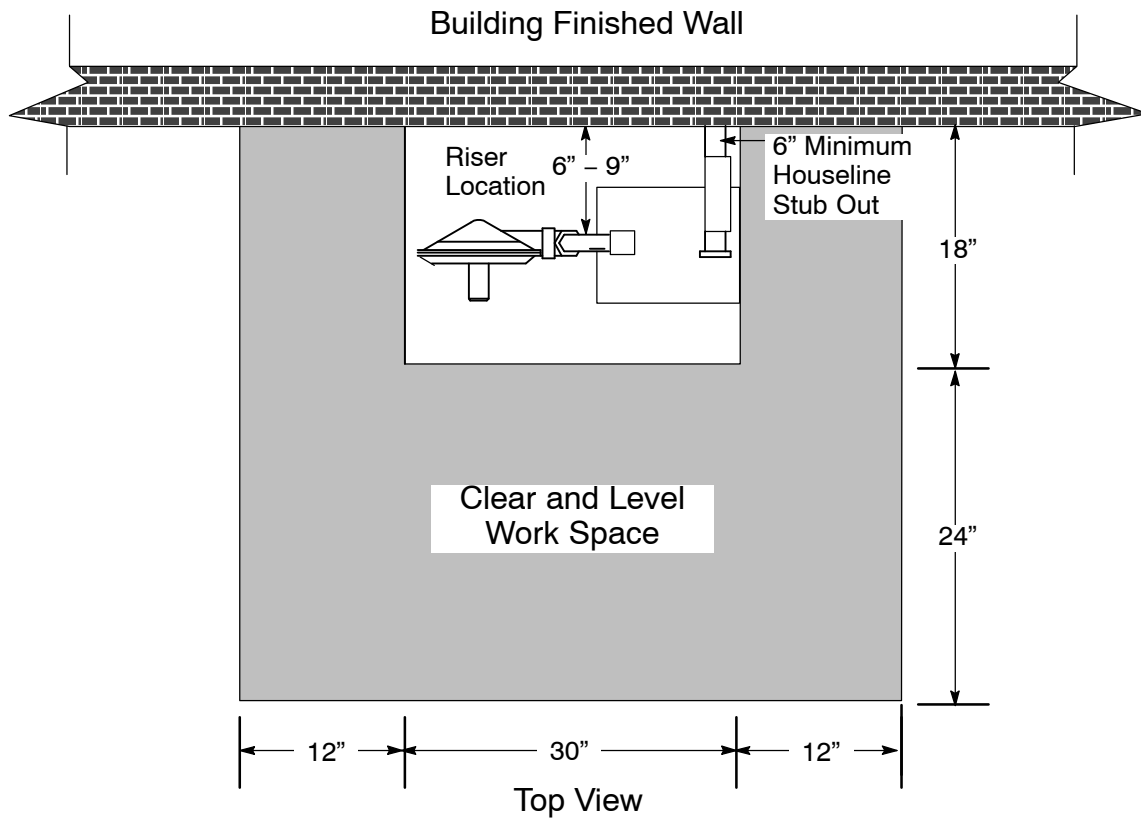

Figure 2-15
4. Figure 2-15 represents a typical gas meter kit with 1,121 through 1,400 scfh at 7 inches WC or 1,876 through 2,400 scfh at 2 psig.